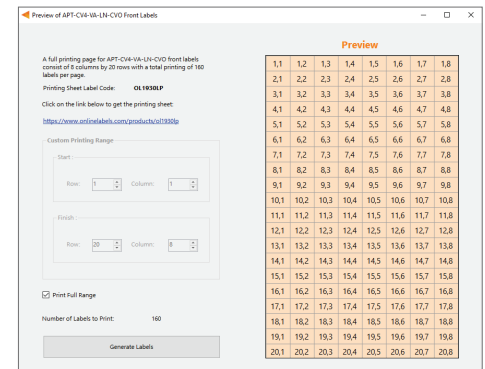

Figure 15: Label generation print preview window
- 1 Select **File > Generate Label** or press **Ctrl +L** to open the Label Generation window (shown in Figure 15).
- 4 Input the starting and finishing rows and columns that will fit on the back or front labels. The selected range is highlighted in blue (Figure 15).